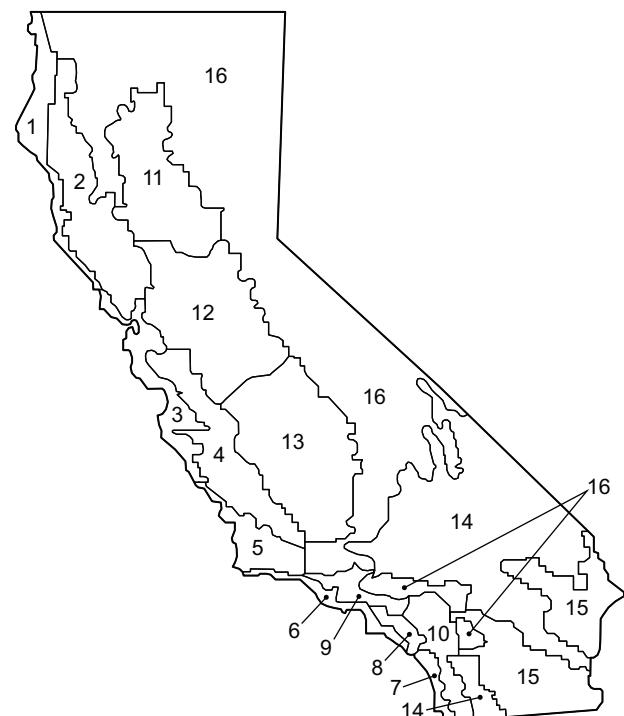

Fig. 87 — California Title 24 Zones
- See Fig. 87 for map of California Title 24 zones.